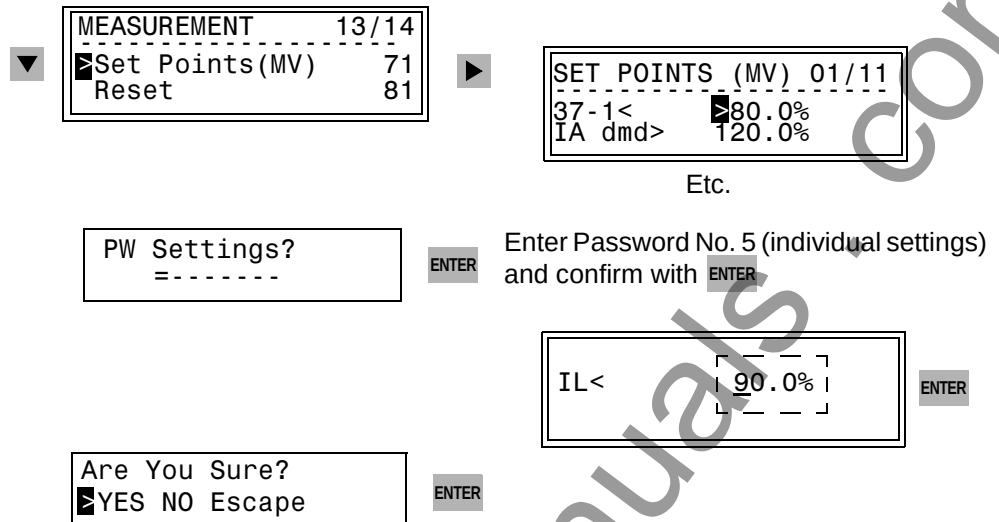

Figure 7-25 Setting Limit Values at the Front Panel — Example
There, select the menu item **Set Points (MV)** with the ▼ key, and switch to the list of limit values using the ▶ key (see Figure 7-25).
Upon leaving this level using the ◀ or MENU keys, the safety inquiry “Are you sure?” appears, with the default answer “Yes” (Figure 7-25). Confirm with the ENTER key if the value should become effective. If a change to the value is not desired, press the ▶ key so that the answer “No” is marked, and confirm this with the ENTER key. To correct the value, mark “Escape”, confirm this with the ENTER key, and enter the value again